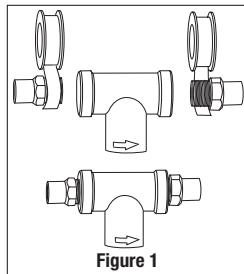

Figure 1
1. Using PTFE tape, wrap the threaded ends of the adapters and screw into both ends of the cartridge head. Do not use pipe sealant/dope as they may contain solvents that may deteriorate fittings. (Figure 1)